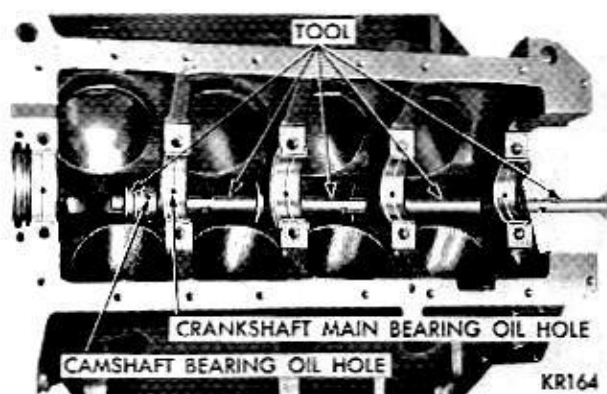

Fig. 30—Removing Camshaft Bearing
(1) With engine completely disassembled, drive out camshaft rear bearing Welch plug.
(2) Install proper size adapters and horse shoe washers (part of Tool C-3132A) at the back of each bearing to be removed and drive out bearings (Fig. 30).
block must be in exact register to insure proper lubrication (Fig. 30).